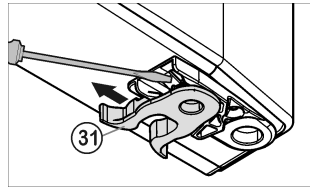

Fig. 6
- ▶ Transfer the spring clamp *Fig. 6 (31)*: Depress the latch nose and pull the spring clamp off over it.